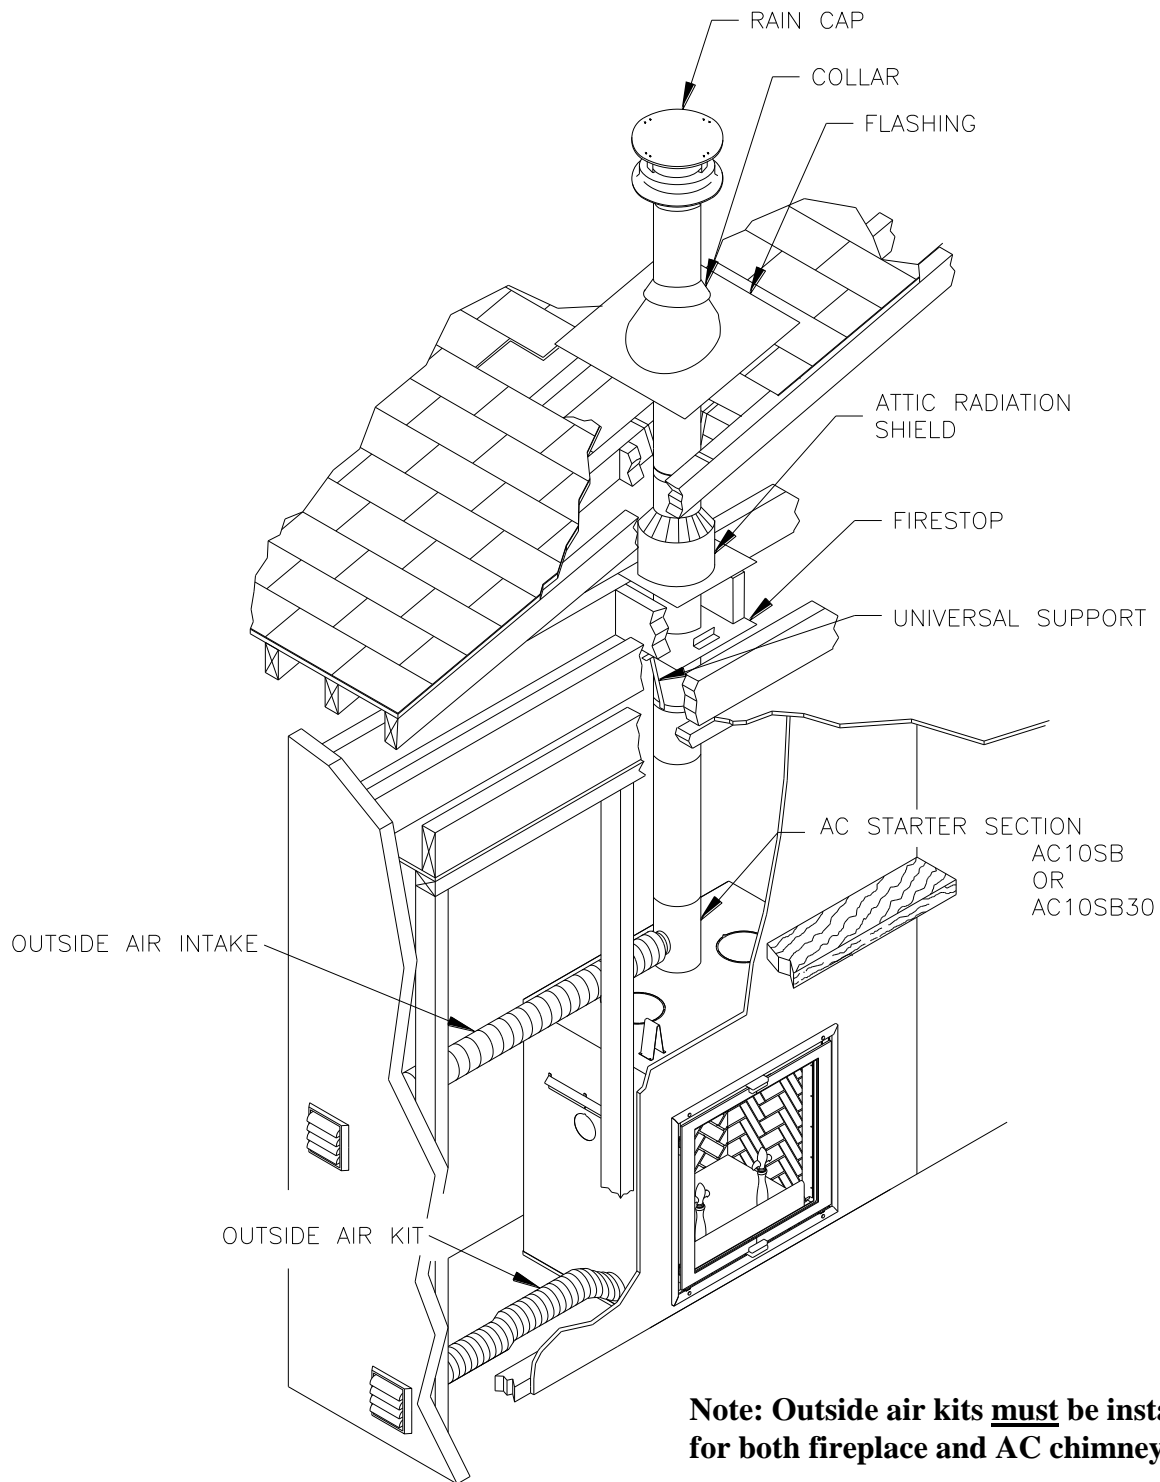

Figure 30
2. For Secure Temp^{ASHT+} / Nova Temp^{HT6103+} chimneys, place the first chimney length on the fireplace. To lock it in place, turn ¼ of a turn clockwise. With the AC chimney, you must use a starter section before installing the first chimney length (figure 30). Continue installing chimney lengths making sure to lock each length in place.